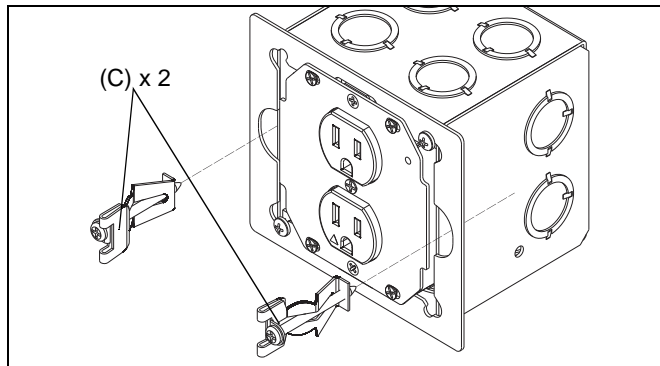

Figure 5
- Install two clips (C) onto either side of EGX-SF2 housing. (See Figure 5)